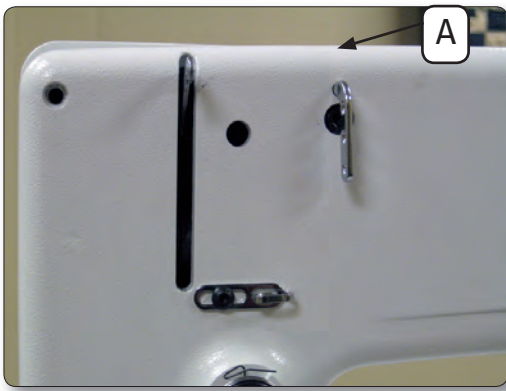
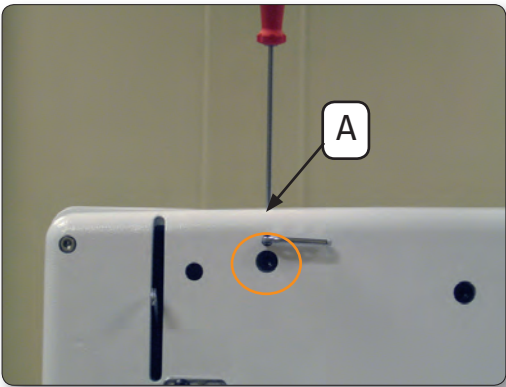

Figure 2.1
Figure 2.2
1. Loosen set screw on top of cover (position A in Figure 2.1). Rotate the 3-hole thread guide to allow access to the frame screw (Figure 2.2), then re-snug the screw so the guide will not become misplaced. (2 mm handle Allen tool)